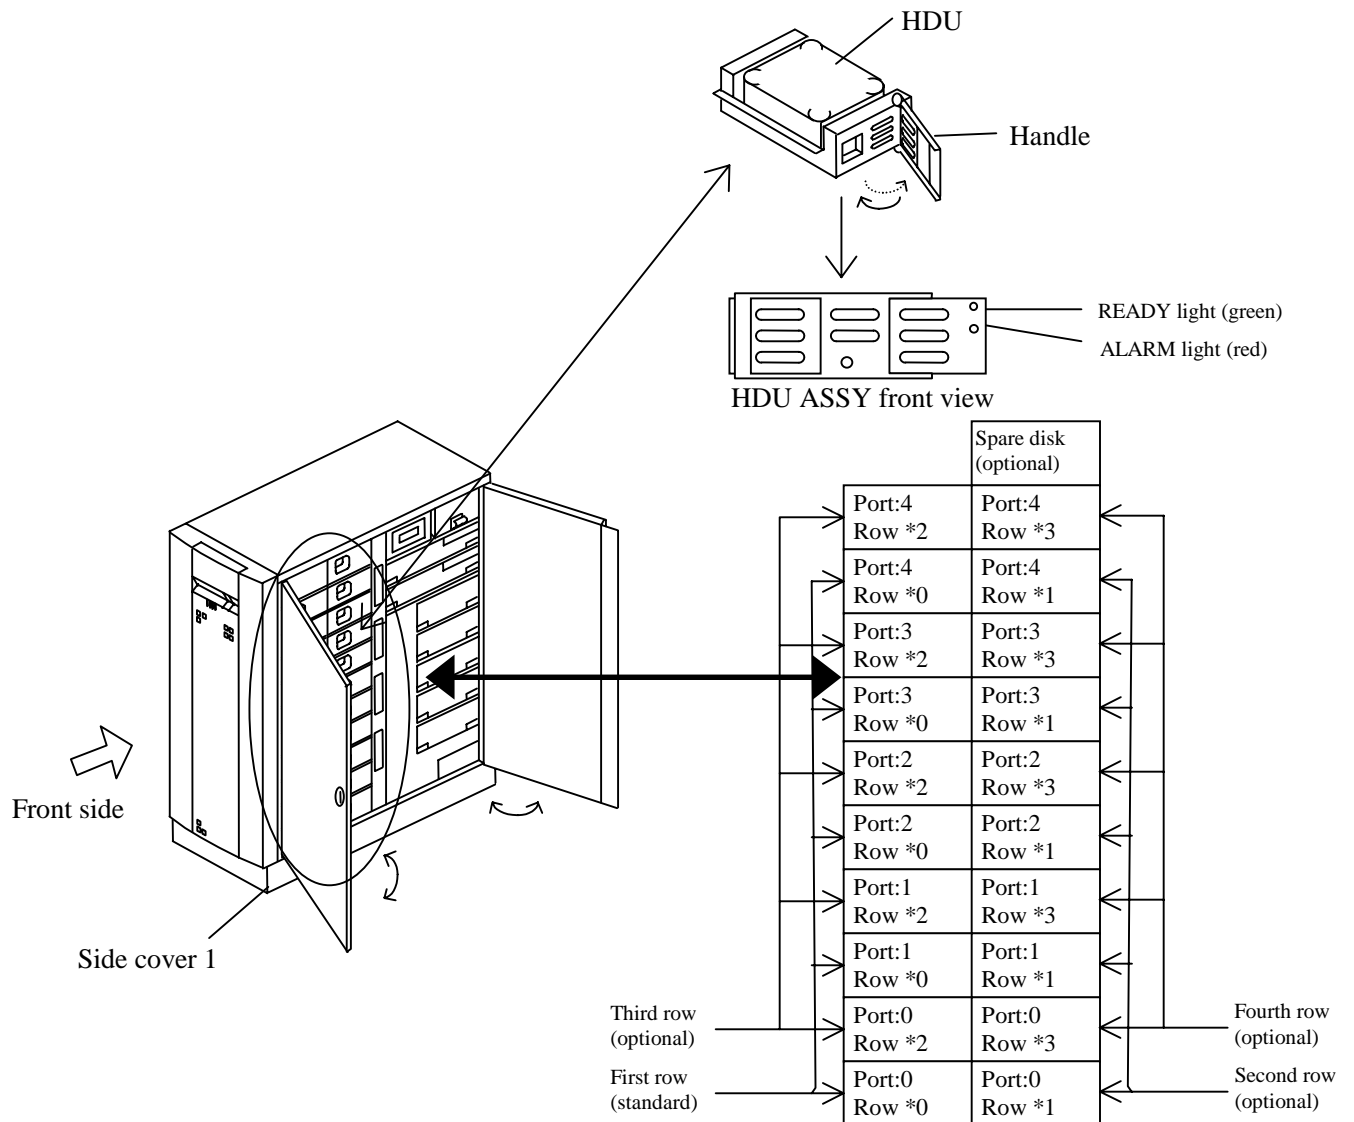

Figure 5.4.6 Installing the HDU ASSY
- (1) Make sure a backup copy of necessary data has been made.
- (2) Open the front cover.
- (3) Remove the old HDU ASSY and set the new HDU ASSY. (See figure 5.4.6.)